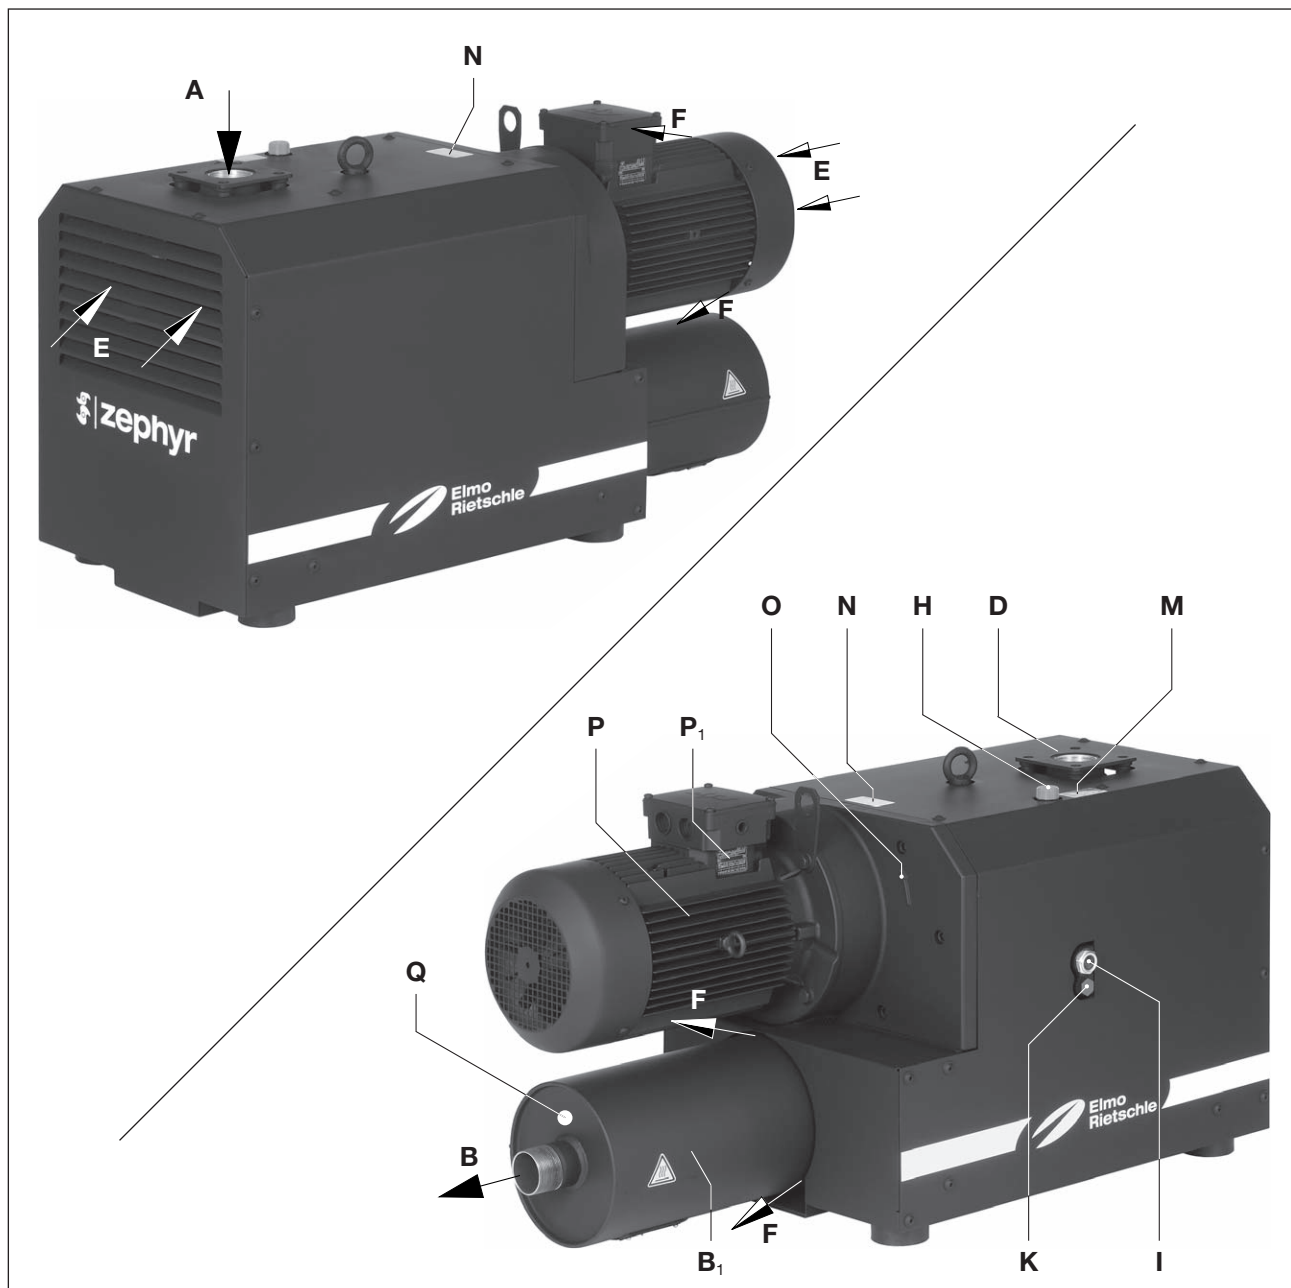

Fig. 2 Vacuum pump C-VLR 301
The C-VLR 301 model has a connection flange on the inlet side and an exhaust silencer on the pressure side (Fig. 2/B₁). The air sucked in is cleaned by a micro-filter. An integral non-return valve prevents the evacuated system from being ventilated after the pump has stopped.
The gearbox and the compression chamber are separated from each other by special seals. The gearbox is sealed from the outside with shaft seals and O rings, the compressor chamber with piston rings. The VLR 301 is enclosed in an insulating hood. In order to dissipate compression heat, the cooling air is sucked through between the machine and the hood using a drum fan that sucks in the fresh cooling air (Fig. 2/E) and discharges the heated air out of the cooling air outlet (Fig. 2/F).
The oil filling point (Fig. 2/H), oil sight glass (Fig. 2/I) and the oil outlets (Fig. 2/K) must be easily accessible. The cooling air inlets (Fig. 2/E) and the cooling air outlets (Fig. 2/F) must be at least 30 cm away from adjacent walls. Cooling air coming out must not be sucked in again. For maintenance work there must be a minimum of 40 cm in front of the mesh filter (Fig. 2/S).
- a) Vacuum connection at (Fig. 2/A).
- c) The extracted air can be discharged through the exhaust silencer (Fig. 2/B) or conducted away via a pipe.
- a) Fill the lubricating oil (for suitable types see "Maintenance") for the gear wheels and oil filling point (Fig. 2/H) up to the middle of the sight glasses (Fig. 2/I).
- a) The motor's electrical data is given on the data plate (Fig. 2/N) or on the motor data plate (Fig. 2/P₁). The motors comply with DIN EN 60034 and are in protection class IP55 and insulation class F. The appropriate connection diagram is located in the motor's terminal box (not for the plug connection version). The motor data must be compared with the data of the existing mains network (current type, voltage, network frequency, permitted current value).
When the machine is at operating temperature the surface temperatures on the components (Fig. 2/ Q) may go above 70°C.
- ▷ The intended direction of rotation of the drive shaft is shown by the rotary direction arrow (Fig. 2/O).